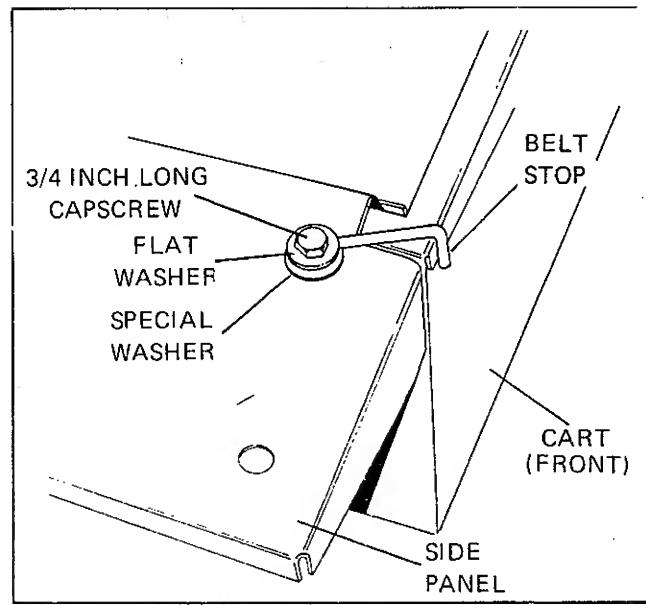

FIGURE 18
- Secure belt stop to inside front of side panel with two flat washers (one above and one below side panel), special washer, 3/4 inch long capscrew, and locknut (Figure 18). Position belt stop at angle illustrated. Repeat procedure for remaining front corner.